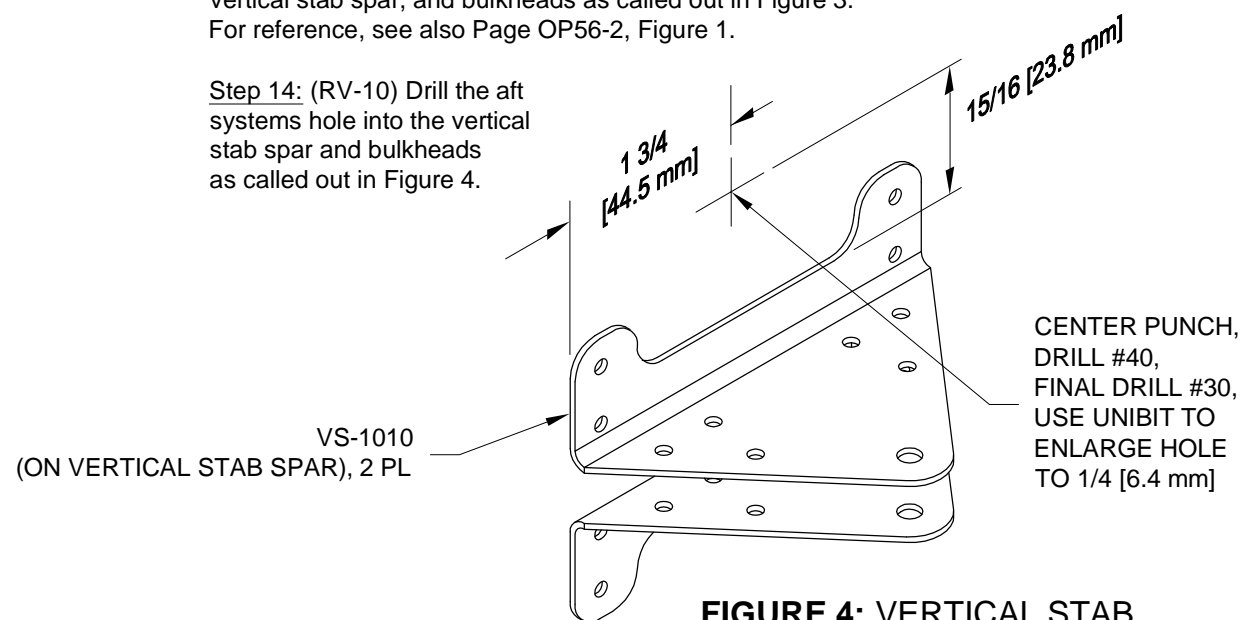

FIGURE 4: VERTICAL STAB SYSTEMS HOLE (RV-10 ONLY)
Step 14: (RV-10) Drill the aft systems hole into the vertical stab spar and bulkheads as called out in Figure 4.